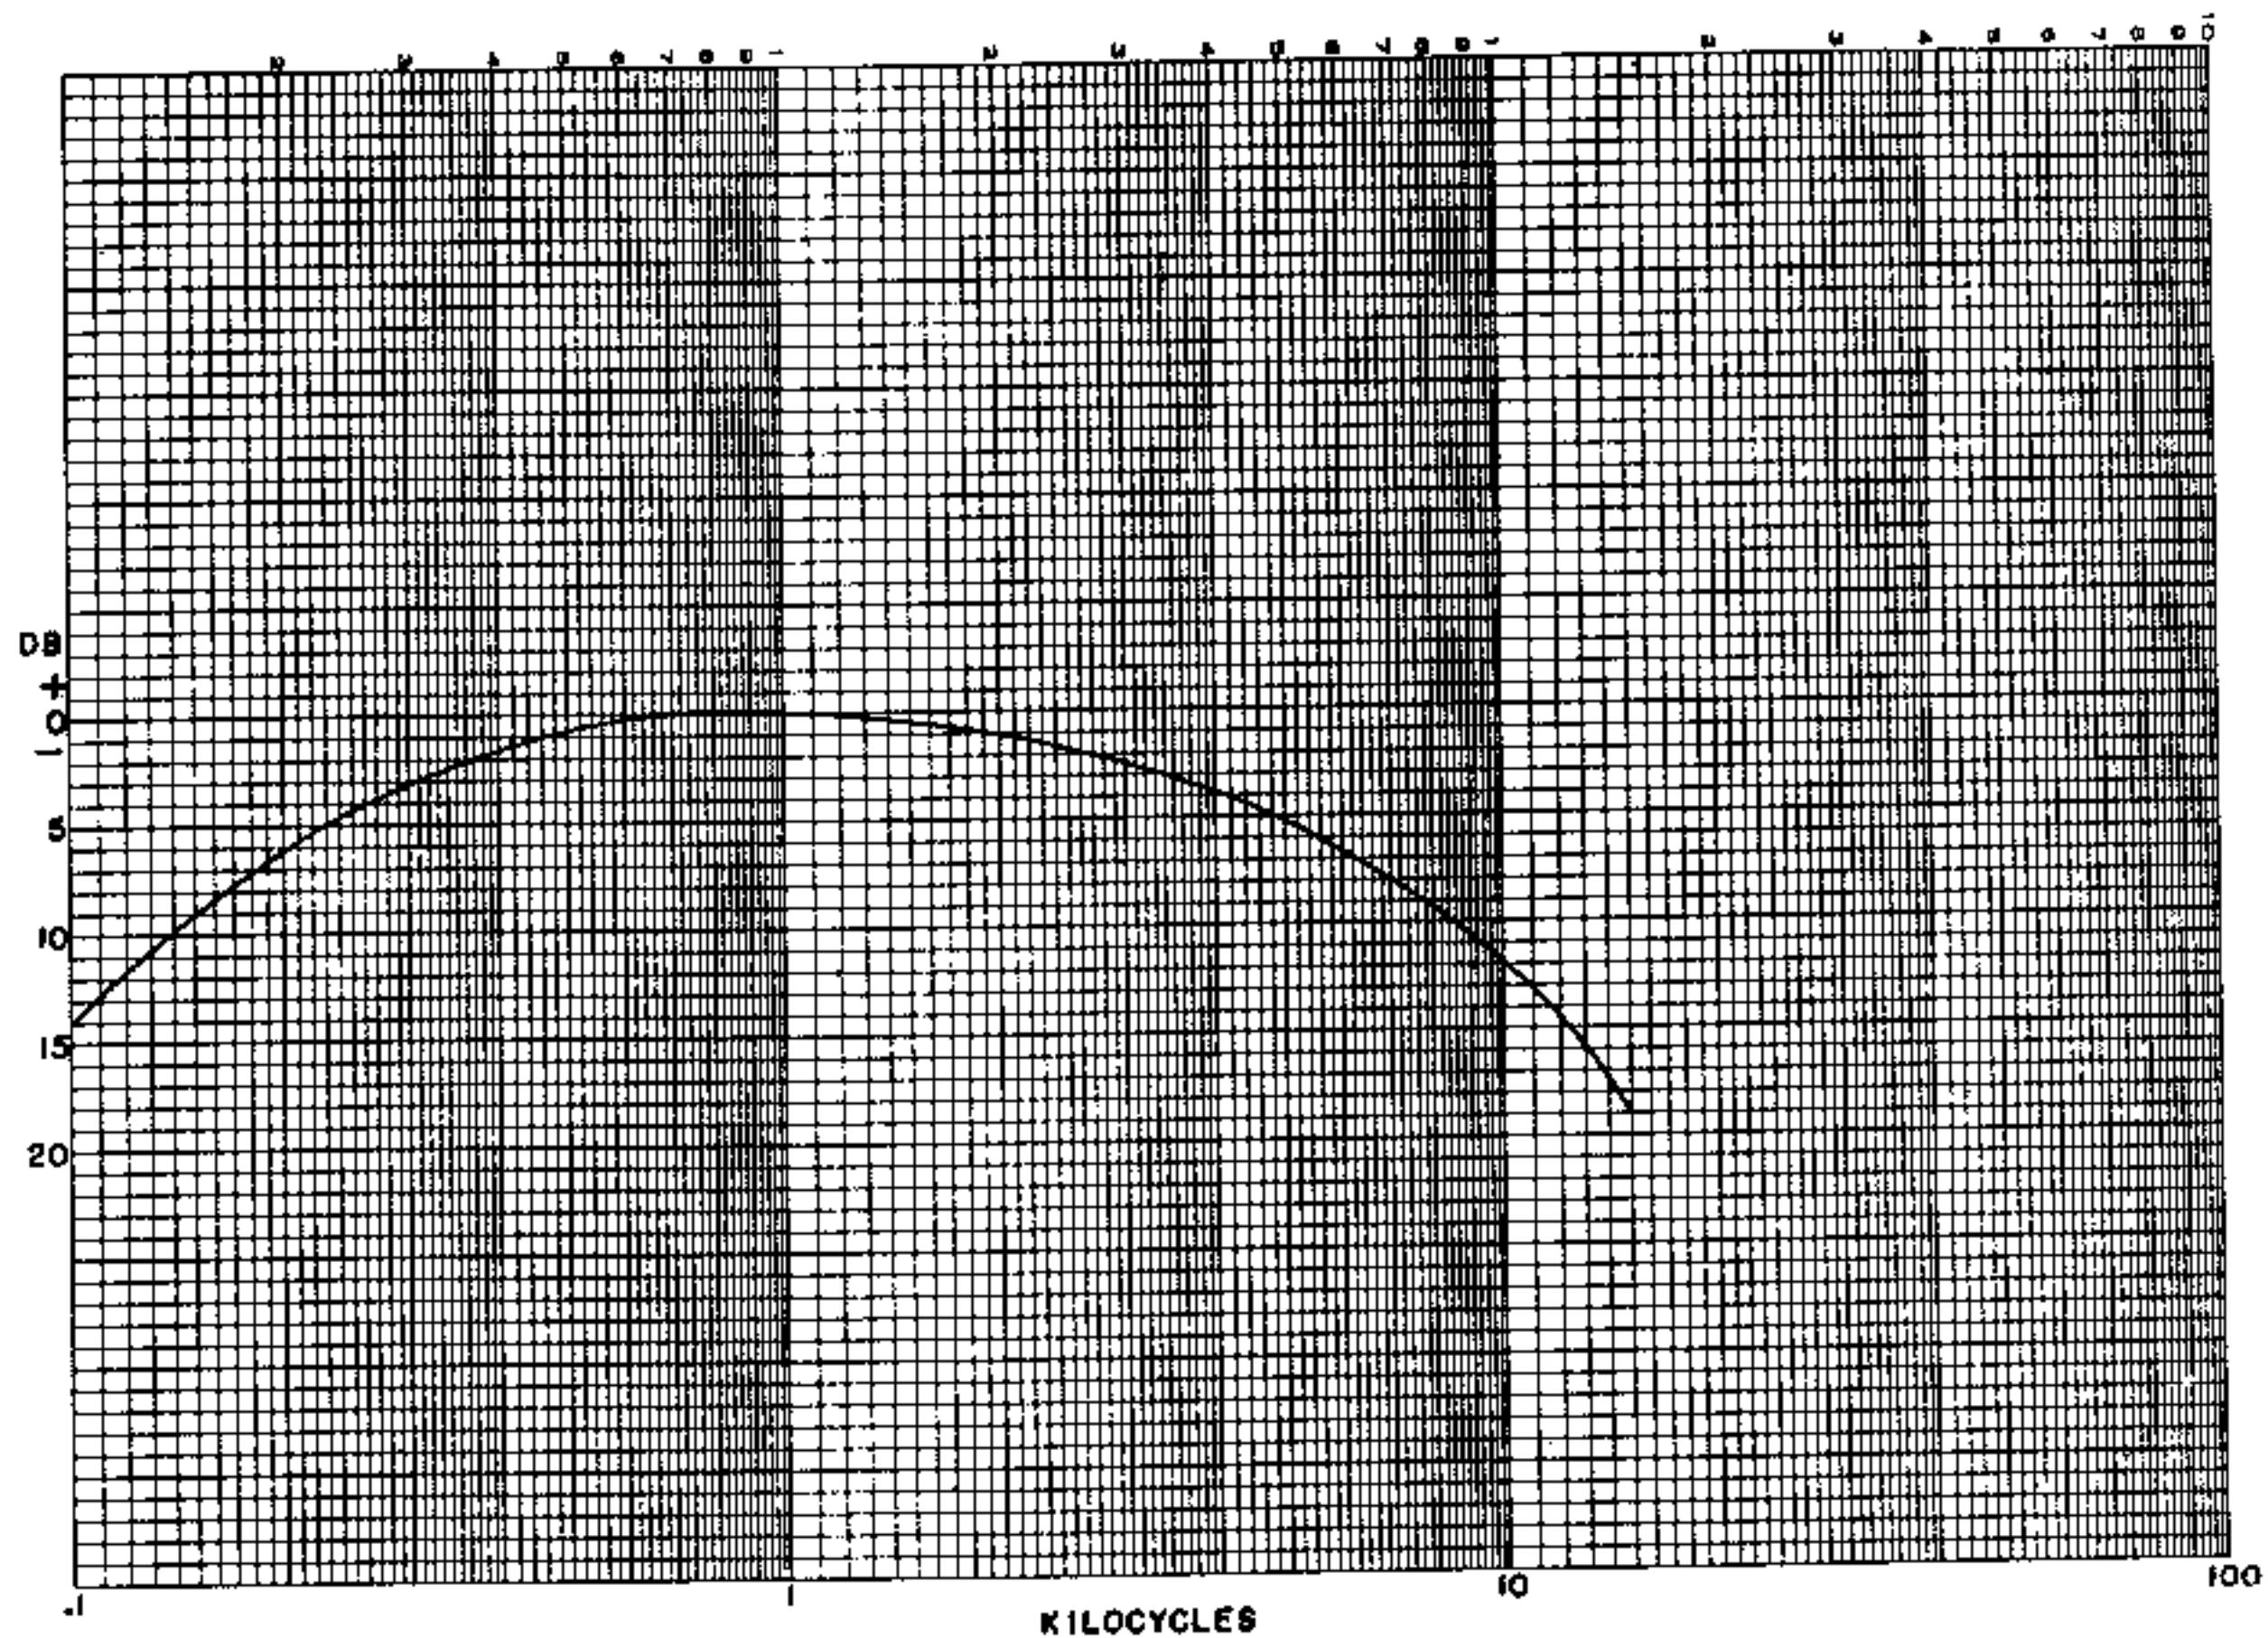

Figure 4. Audio Response
**TONE** – The adjustment of the characteristics of the audio circuitry is permitted by the Tone control. Rotated in a clockwise direction it increases attenuation of the higher frequencies. At its extreme counterclockwise position it actuates a switch which effectively attenuates frequencies below the voice range. This feature is provided to equalize the roll-off characteristic introduced by the crystal filter. Figure 4 illustrates the audio characteristics of the receiver.